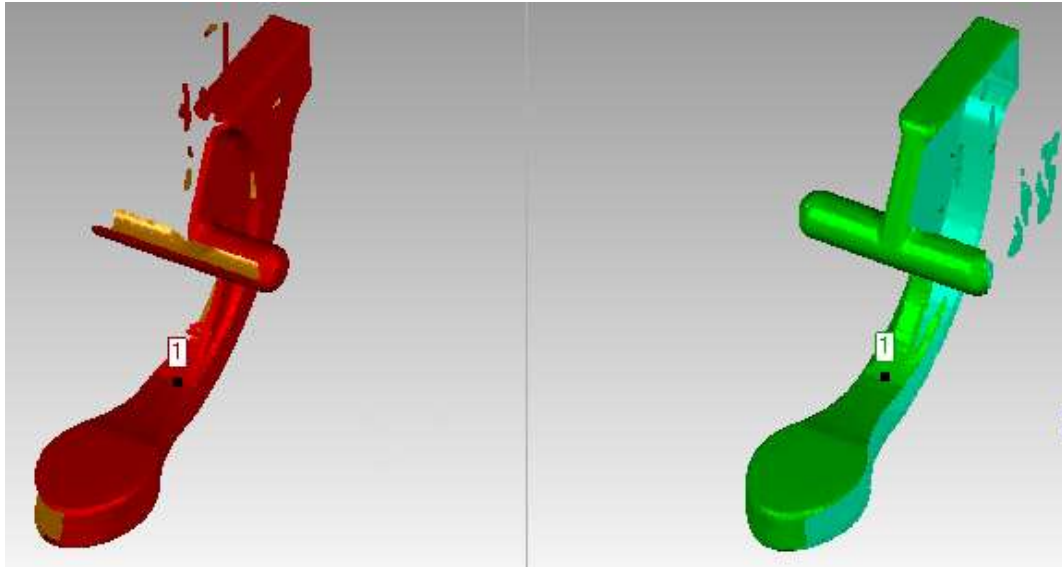

Figure 34
- Pick a common point that is available in both the **Fixed** (red) and **Floating** (green) view ports, see **Figure 34**.